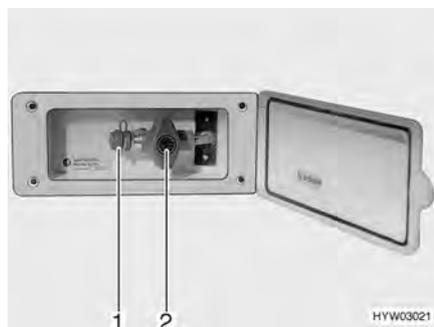

Fig. 126 External gas connection, gas isolator tap closed
The external gas connection (Fig. 126) is located at the rear or to the left or right of the vehicle depending on the model.
- Connect the external gas device to the connection point (Fig. 126,1).
- Open the gas isolator tap (Fig. 126,2).